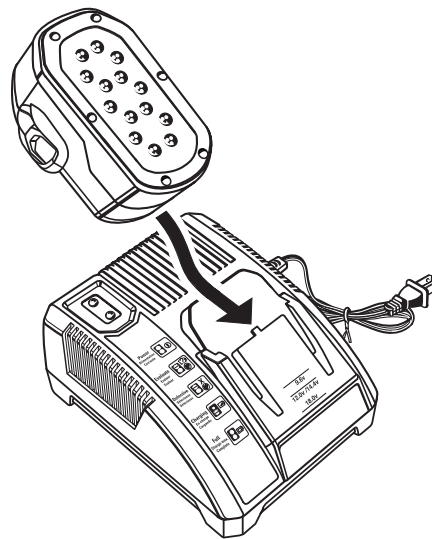

Fig. 5
- Attach the battery pack to the charger by aligning the raised ribs on the battery pack with the grooves in the charger, then slide the battery pack onto the charger. See *Figure 5*.
See Figure 5.